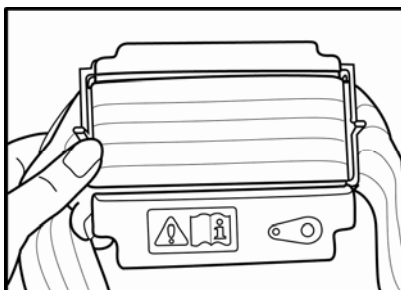

Fig. 7
2. Thread the belt through the rear cover and fit the cover on to the back of the filter carrier assembly (Fig. 7).